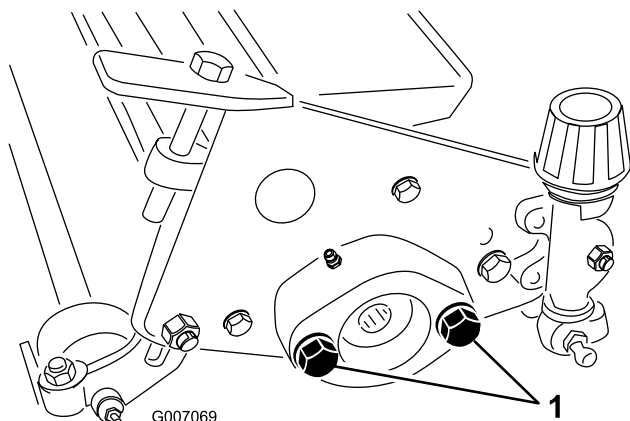

Figure 8
- B. Adjust the reel drive motor mounting screws so approximately 1/2 in. of threads is exposed on each screw (Figure 8).